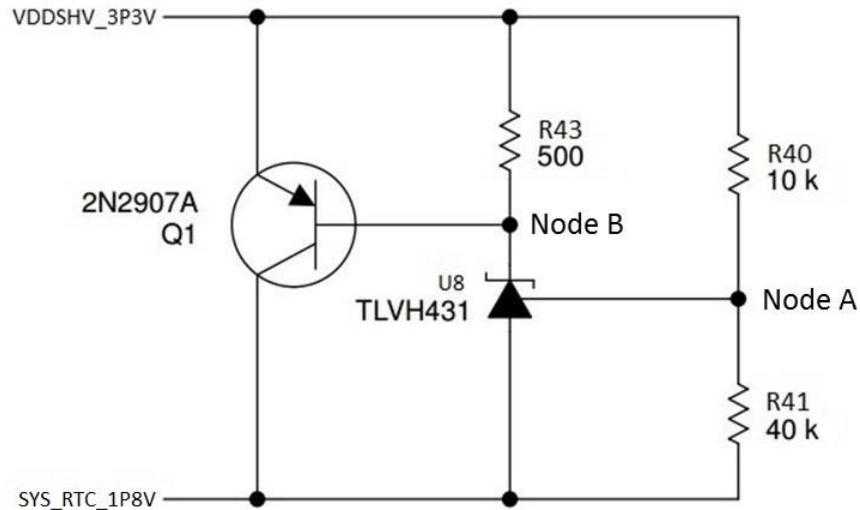

Figure 30 Clamping circuit
The clamping circuit (shown in Figure 30) will make sure that the voltage difference between the given two voltage rails (VDDSHV_3P3V and SYS_RTC_1P8V) is less than 2V. Its operation will be discussed in three phases.
- The shunt regulator, TLVH431, will be OFF (acts as open switch) whenever the voltage at its reference input connected to node A (in Figure 30) is less than 1.24V. It will turn ON (act as closed switch) whenever voltage at its reference input (node A) is greater than 1.24V.